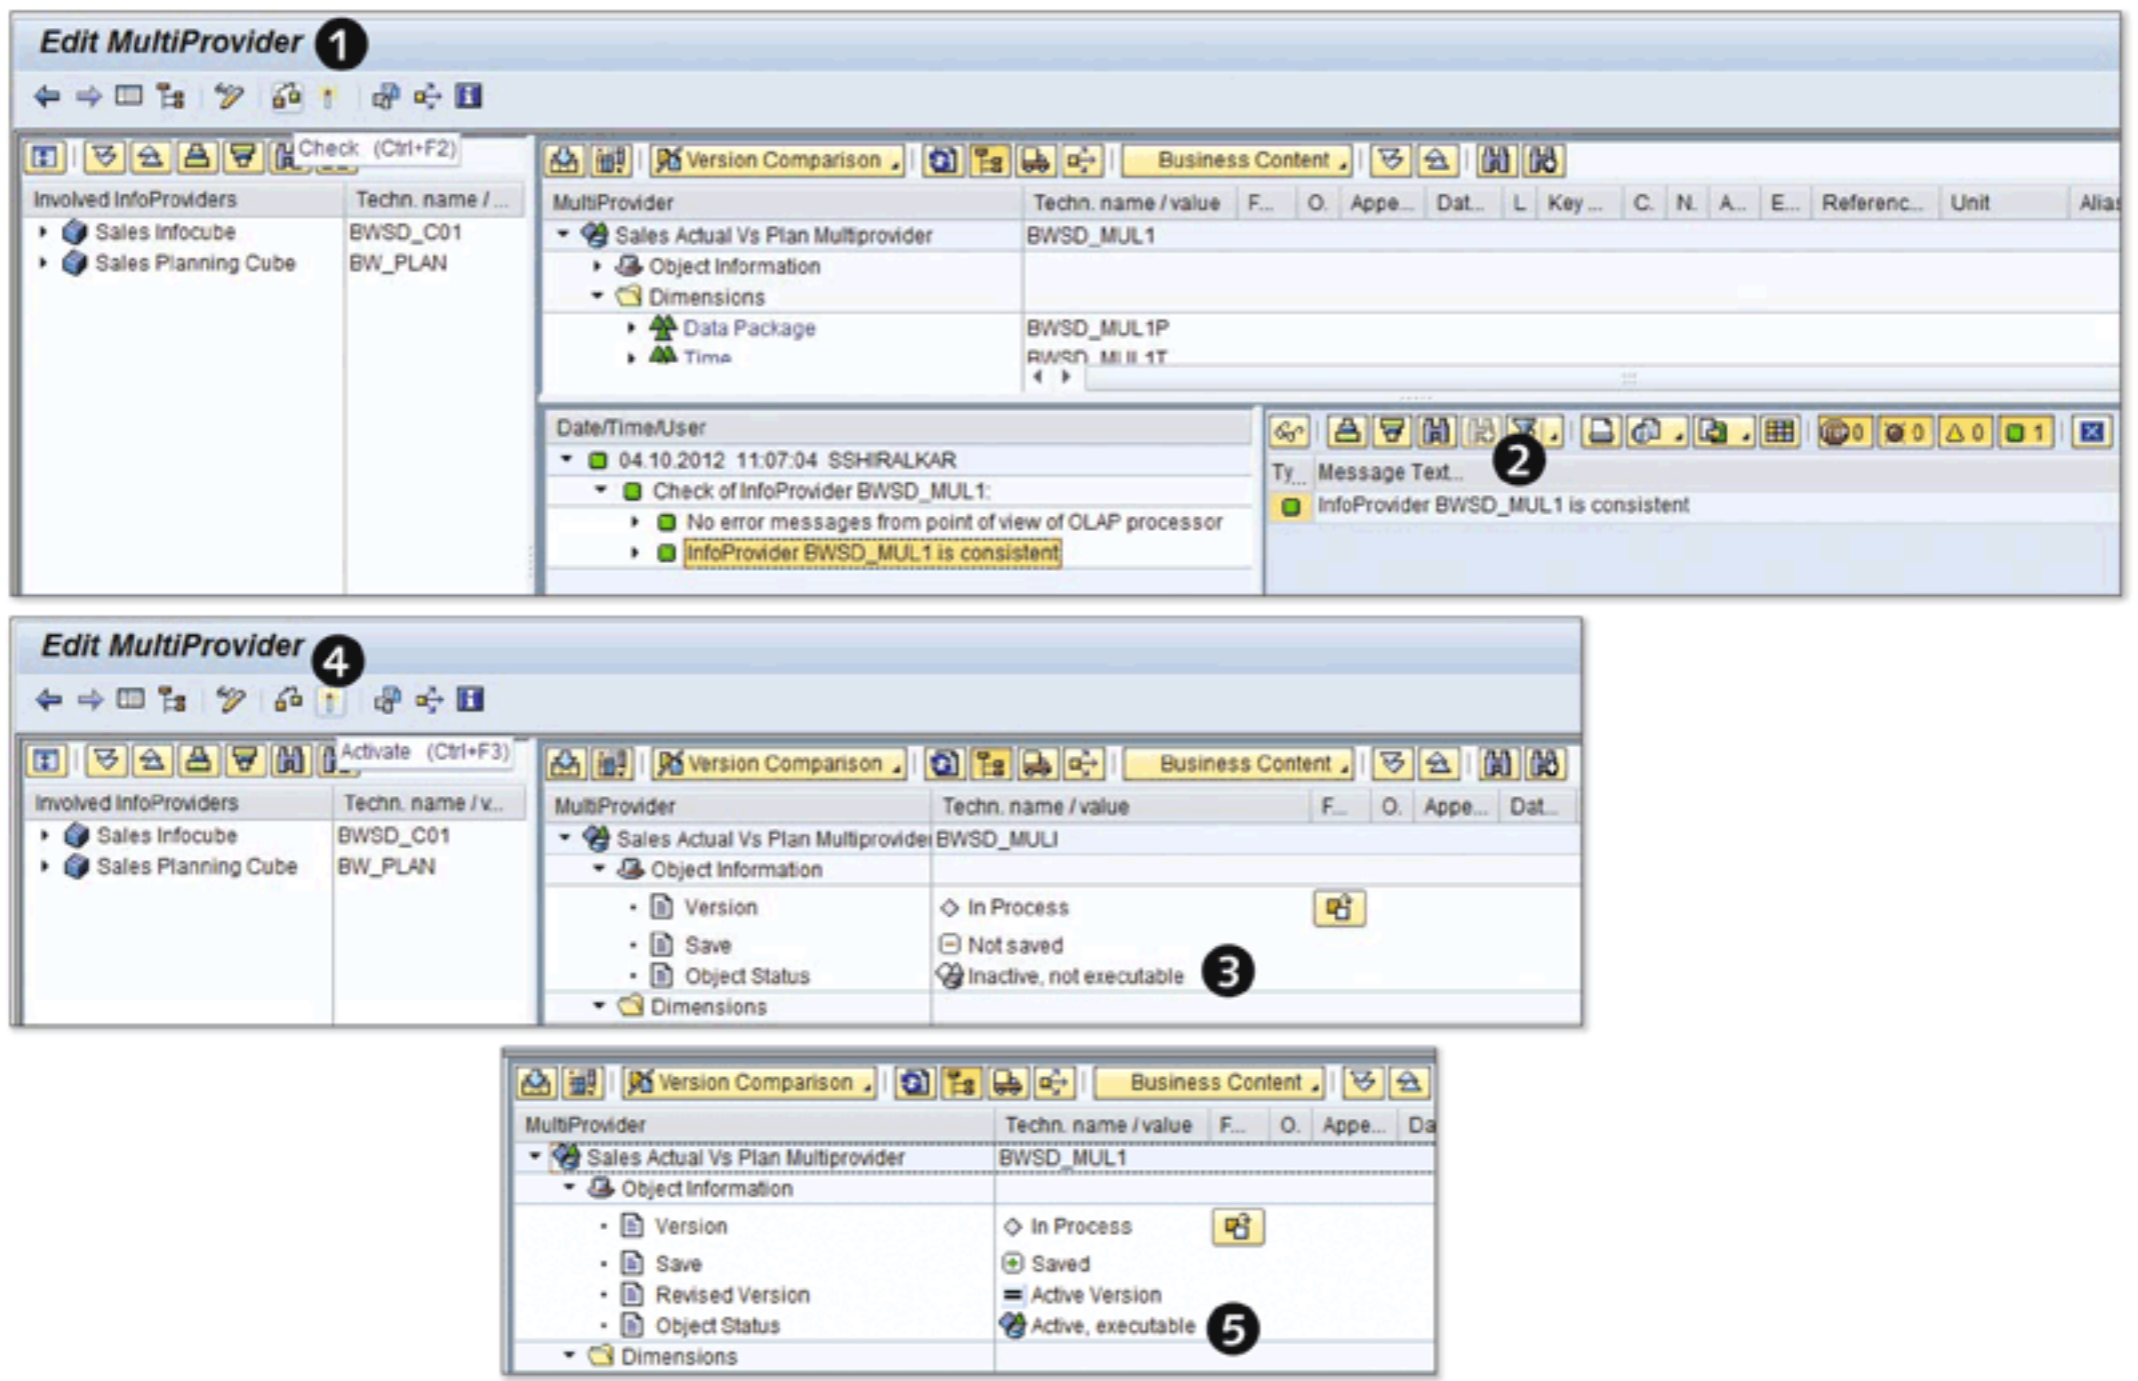

Figure 6.14 Checking and Activating the MultiProvider
Now click on the CHECK icon, as shown in ❶ of Figure 6.14, to check the definition of the MultiProvider. If everything is okay, the system reports a message (❷). You can see that the MultiProvider is still not in ACTIVE status (❸), so click on the ACTIVATE icon (❹). After it's successfully activated, the system changes the status of the MultiProvider to ACTIVE (❺).